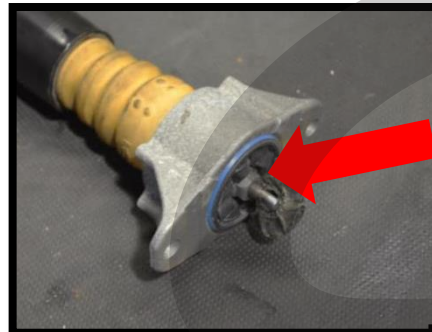

Figure 3c
- d) Peel back the dust seal on top of the aluminum shock mount, and remove the 12mm nut (Figure 3c).
- d) Peel back the dust seal on top of the aluminum shock mount, and remove the 12mm nut (Figure 3c). If the strut spins you can use pliers to hold the top and a wrench to loosen the nut.